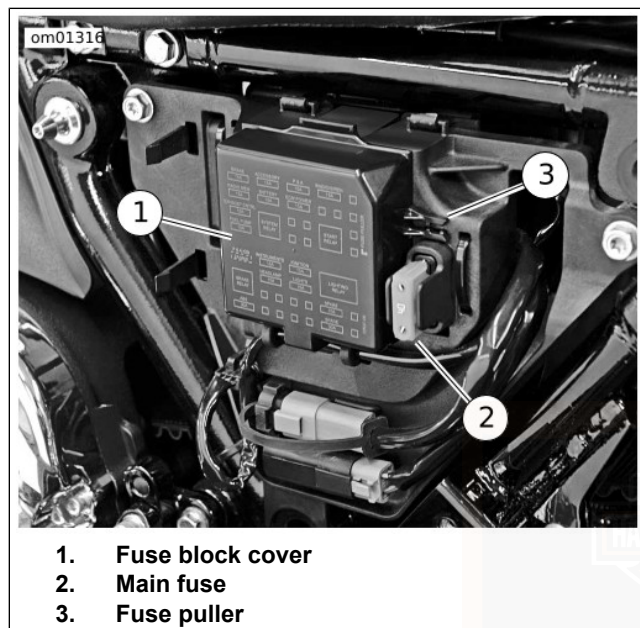

Figure 74. Fuse Block: Tri Glide Models
See Figure 74. Removal of side covers during electrical service requires no tools. Gently pull side cover to remove. Align barbed studs on side cover with grommets in frame and push to install.
3. See Figure 74. Press latch on bottom of fuse block cover and swing bottom of the cover out. Remove the cover.